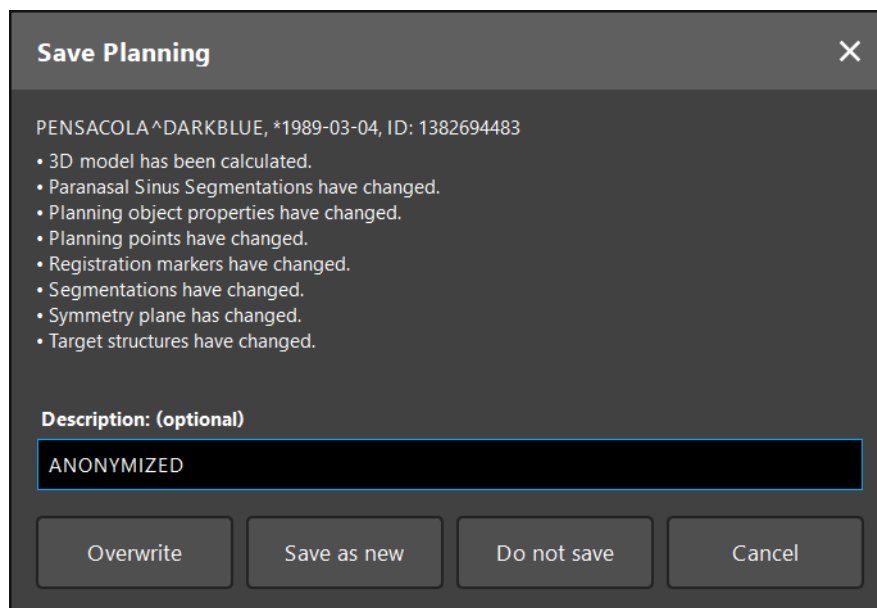

Figure 94 *Save Planning* dialog
- To close the *Save Planning* dialog box and abort the currently executed action, click *Cancel* (Figure 94).